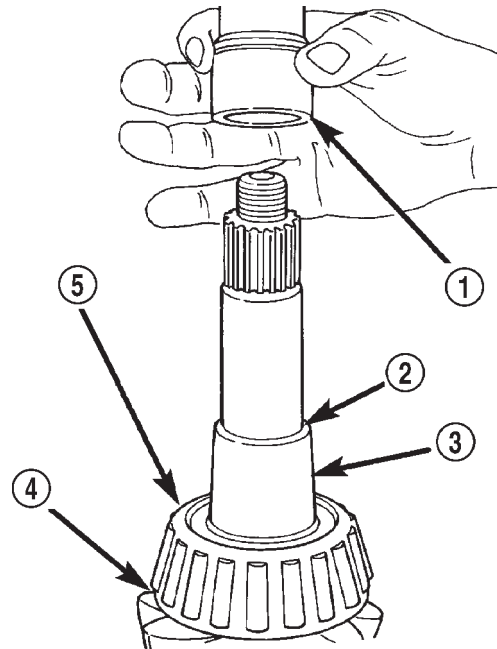

Fig. 28 Collapsible Spacer
- (12) Remove the collapsible preload spacer (Fig. 28).